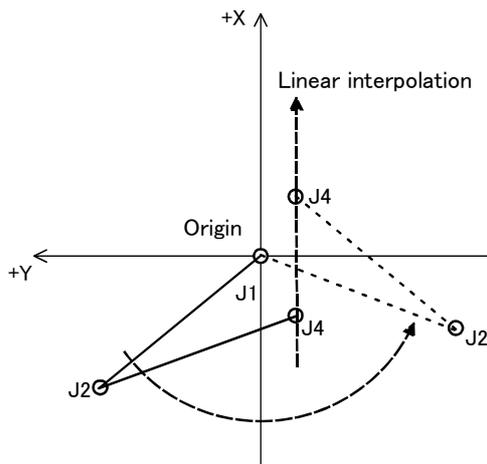

Fig.4-32:Passing through near the origin point
(1) When performing a XYZ interpolation operation while maintaining the speed of the control point, the J1 axis must rotate at a faster speed when passing through a point near the origin point O (one of the robot's singular points) as shown in Fig. 4-32, causing an excessive speed error depending on the specified speed. If SpdOpt On is executed, the speed is adjusted automatically in order to prevent an excessive speed error from occurring.